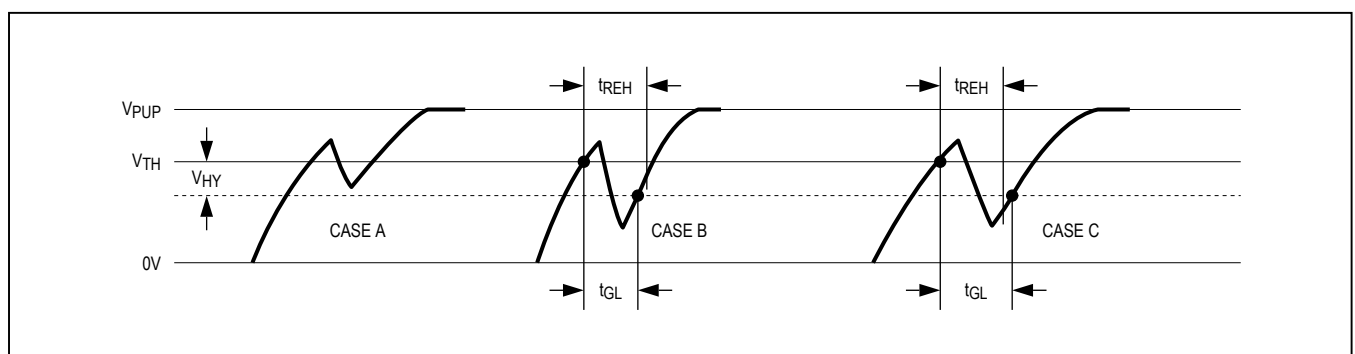

Figure 12. Noise Suppression Scheme
- 2) There is a hysteresis at the low-to-high switching threshold  $V_{TH}$ . If a negative glitch crosses  $V_{TH}$  but does not go below  $V_{TH} - V_{HY}$ , it is not recognized (Figure 12, Case A). The hysteresis is effective at any 1-Wire speed.
(Figure 12, Case B,  $t_{GL} < t_{REH}$ ). Deep voltage drops or glitches that appear late after crossing the  $V_{TH}$  threshold and extend beyond the  $t_{REH}$  window cannot be filtered out and are taken as the beginning of a new time slot (Figure 12, Case C,  $t_{GL} \geq t_{REH}$ ).